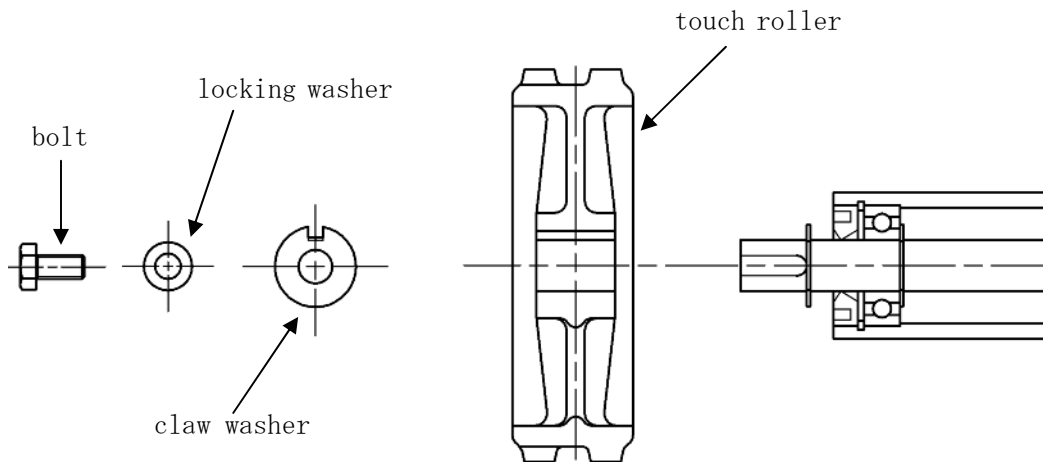

Fig.11 Replacement of Touch roller
1) Replacement of touch roller of Speed Relay type ESRW (See Fig. 11)
(Refer to Fig.11)